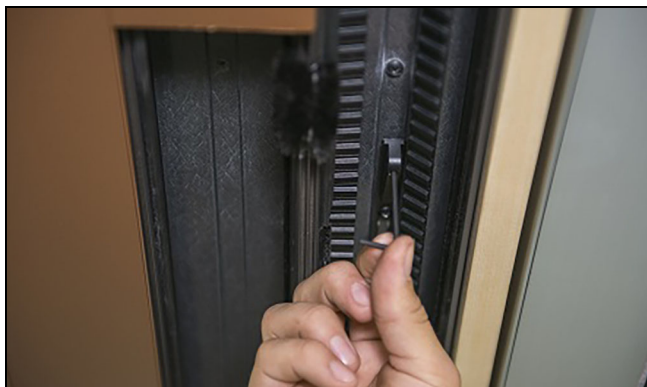

Figure 48
7. Open and close the door using Sliding Door Automatic Control System. Ensure the door manually locks. If the door doesn't manually lock, adjust the set screw. See Figure 48.